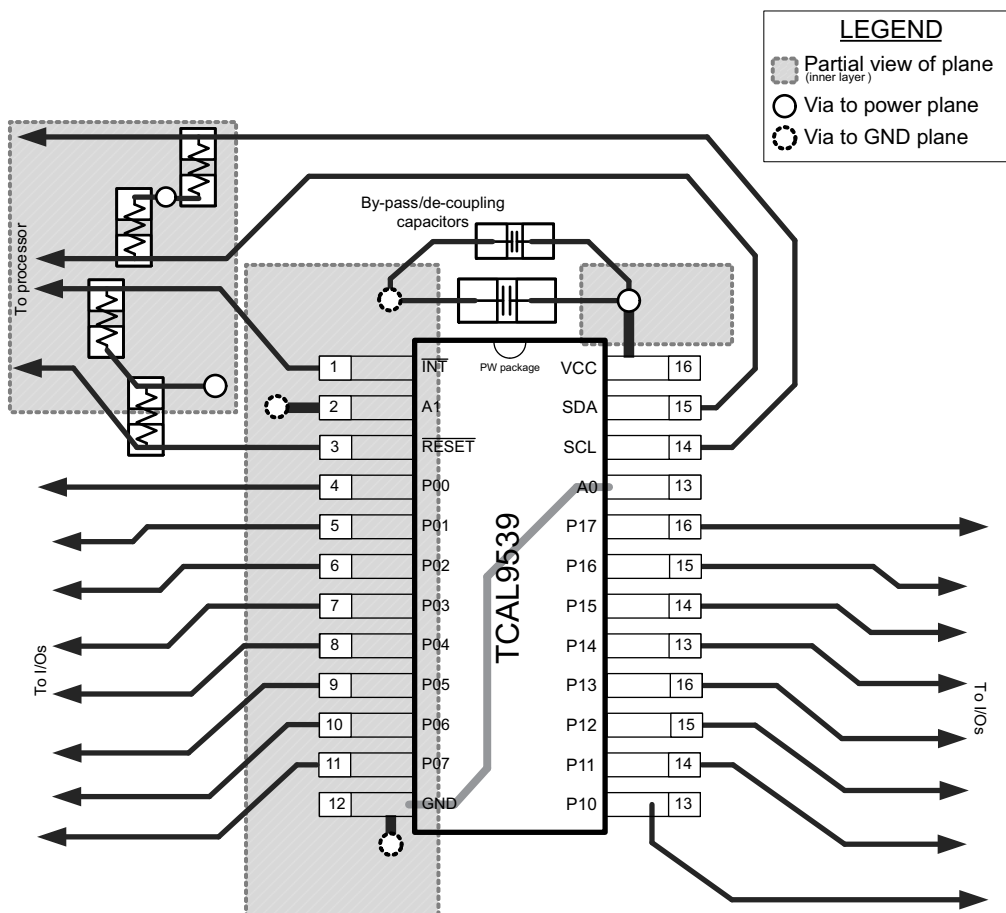

Figure 9-10. TCAL9539 Layout
In all PCB layouts, it is a best practice to avoid right angles in signal traces, to fan out signal traces away from each other upon leaving the vicinity of an integrated circuit (IC), and to use thicker trace widths to carry higher amounts of current that commonly pass through power and ground traces. By-pass and decoupling capacitors are commonly used to control the voltage on the supply pins, using a larger capacitor to provide additional power in the event of a short power supply glitch and a smaller capacitor to filter out high-frequency ripple. These capacitors should be placed as close to the TCAL9539 as possible. These best practices are shown in Figure 9-10.
For the layout example provided in Figure 9-10, it is possible to fabricate a PCB with only 2 layers by using the top layer for signal routing and the bottom layer as a split plane for power and ground (GND). However, a 4 layer board is preferable for boards with higher density signal routing. On a 4 layer PCB, it is common to route signals on the top and bottom layer, dedicate one internal layer to a ground plane, and dedicate the other internal layer to a power plane. In a board layout using planes or split planes for power and ground, vias are placed directly next to the surface mount component pad which needs to attach to power or GND and the via is connected electrically to the internal layer or the other side of the board. Vias are also used when a signal trace needs to be routed to the opposite side of the board, but this technique is not demonstrated in Figure 9-10.